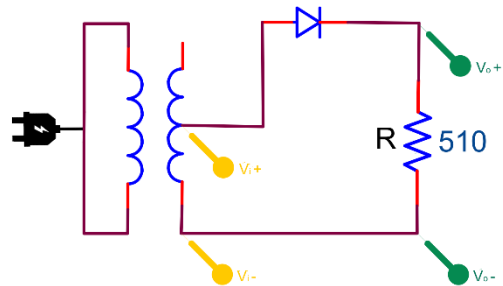

Figure 4.5
1. The circuits in this experiment use a center-tapped transformer (as shown in Figure 4.5) with a 7.5VAC-RMS output across half of the secondary. What is the peak-peak voltage of the sine wave corresponding to this RMS voltage?
1. Construct the circuit shown in Figure 4.5. Use the 1N4002 diode. Note that you are only applying 7.5 VAC-RMS from the transformer secondary. Use the oscilloscope to observe the voltage, v_i , at the transformer and v_o across the 510 Ω load resistor.